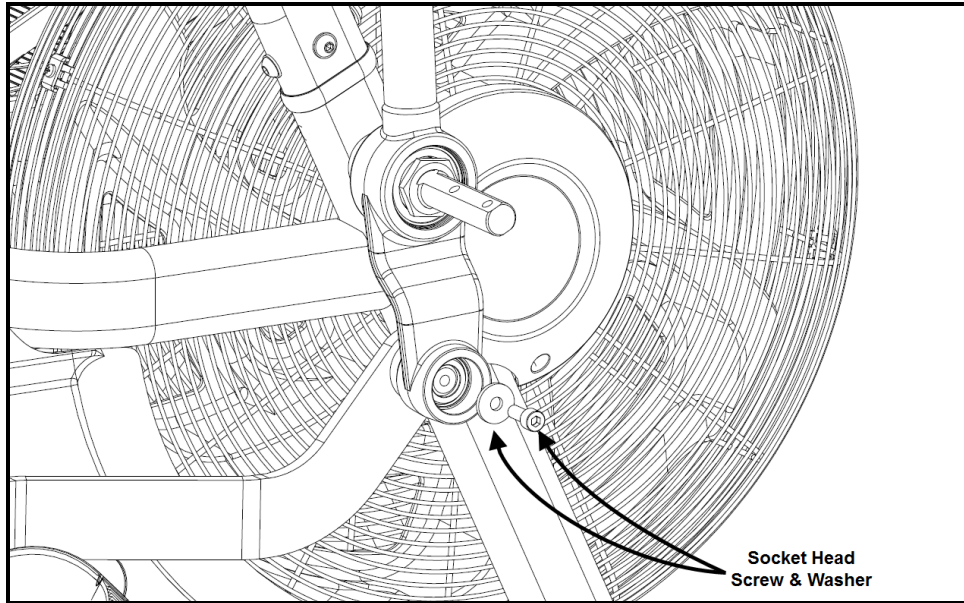

Fig. 4
- Using a 5mm hex key, remove the socket head screw & washer (Fig. 4) mating the arm to the crank link arm.